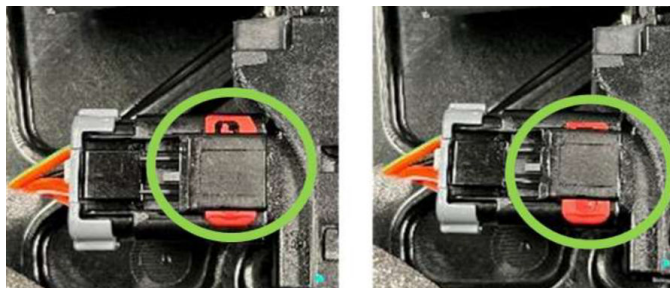

Fig. 16
18. Unseat the motor connector tab by pushing inward and down on red tab Fig. 16.